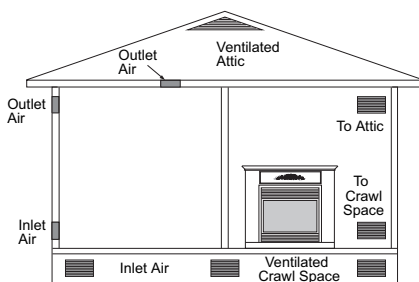

Figure 6 - Ventilation Air from Outdoors
A. Clearances from the side of the fireplace cabinet to any combustible material and wall should follow diagram in Figure 6.